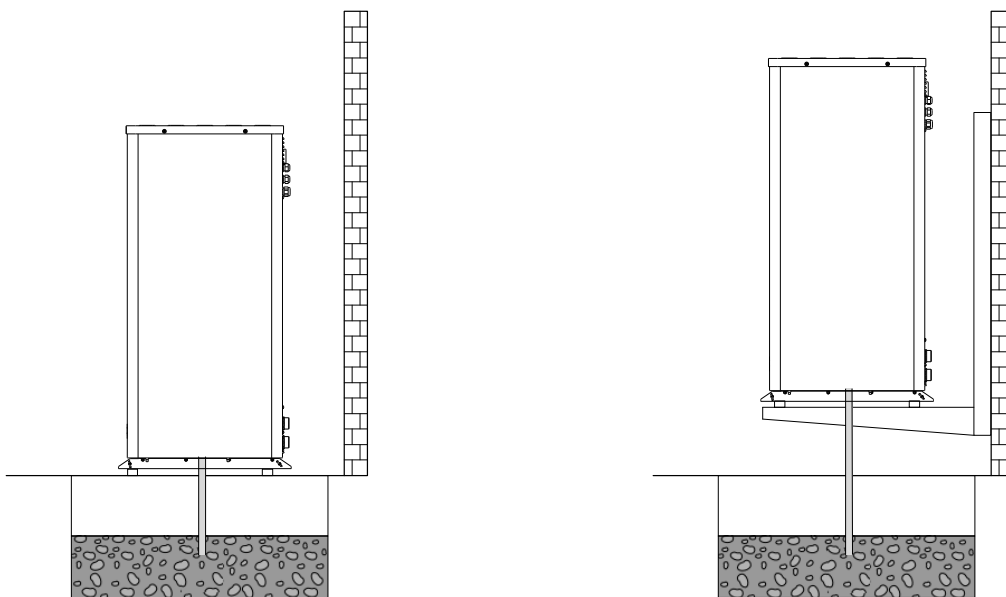

Figure 2.7. Support system with tray connected to a layer of gravel to drain the water.
- If the unit is installed on a surface that does not drain, place a pipe to channel the defrost water from the unit outlet to the nearest drain. Figures 2.7 and 2.8 show several proposed systems to evacuate the water, depending on the support system.